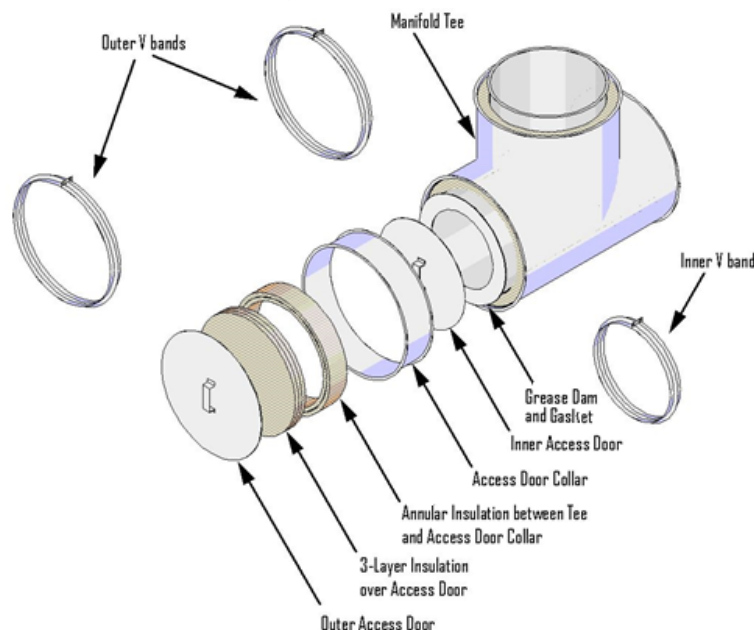

Figure 2. Access Door Assembly
- B. ACCESS DOOR – When required, use the duct manufacturer's manifold tee and access door (tee cap) assembly (see Figure 2). Apply a $1/4$ in. continuous bead of sealant (Item 2A) to the inner flange of the tee on the side where access door is to be located. Center the supplied grease dam over the opening of the tee. Verify that the grease dam is sealed to the tee flange by applying pressure. Remove excess sealant (Item